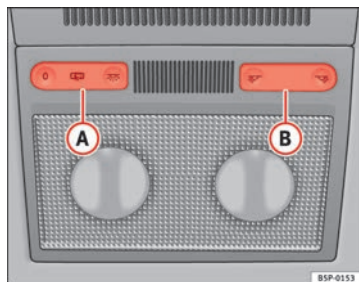
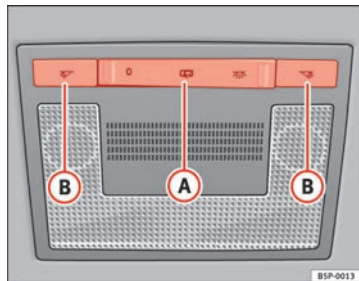

Fig. 81 Interior roof trim: front reading lights, type 1
Fig. 82 Interior roof trim: front reading lights, type 2
Press the corresponding button \Rightarrow fig. 81 (B) and \Rightarrow fig. 82 (B) to switch on the reading light.